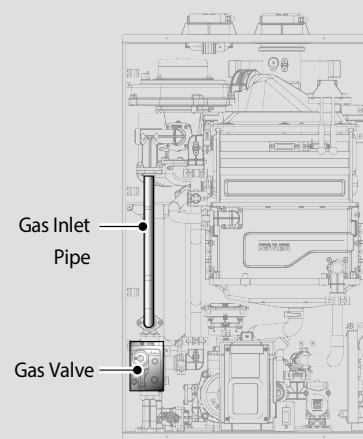

Figure 2.
3. Once the front cover is removed, place it in a safe location to prevent accidental damage. With the internal component exposed, locate the gas inlet pipe and the Gas Valve near the left side of the unit which are highlighted in Figure 2.